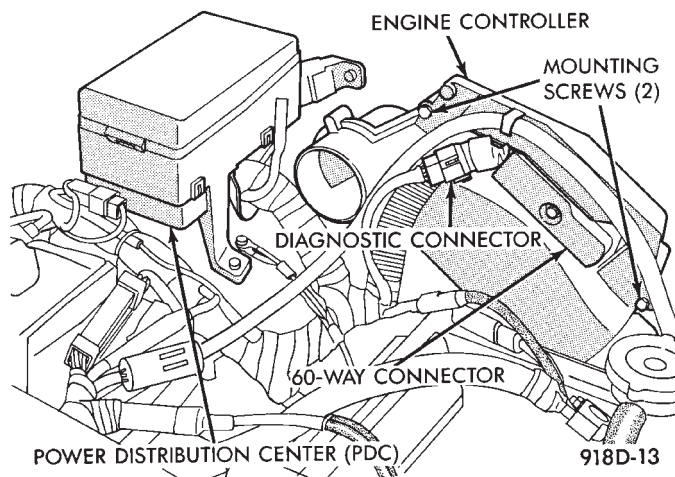
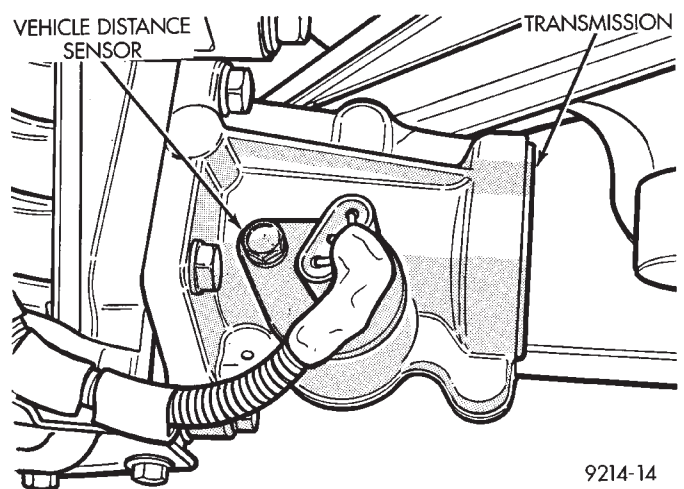

Fig. 18 Power Distribution Center (PDC) (AC Body)
Fig. 23 Distance Sensor Wiring Connection
(28) Verify all electrical connectors are fully inserted into relays and that battery connections are clean and tight (Figs. 18, 19, 20, 21, and 22).
(29) Verify engine harness to main harness connections are fully inserted.
(30) Check the distance sensor connector (Fig. 23).